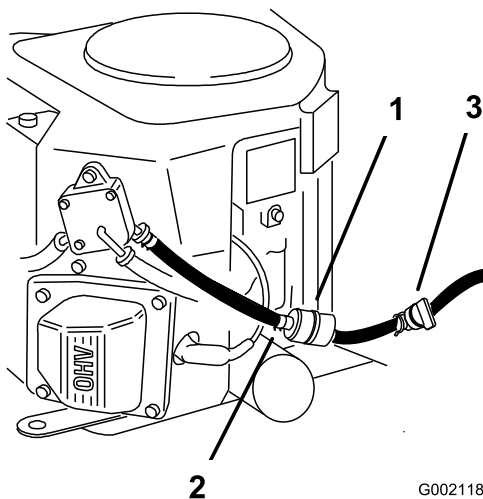

Figure 52
4. Close the fuel-shutoff valve under the seat (Figure 52).
5. Squeeze the ends of the hose clamps together and slide them away from the filter (Figure 52).
7. Install a new filter and move the hose clamps close to the filter (Figure 52).